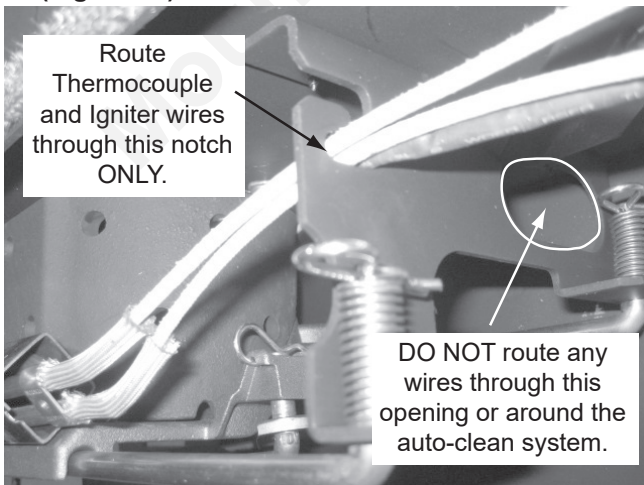

Figure 10
- The wire of the thermocouple (**C1**) need to be routed through the notch in the fire pot riser assembly (**Figure 10**).